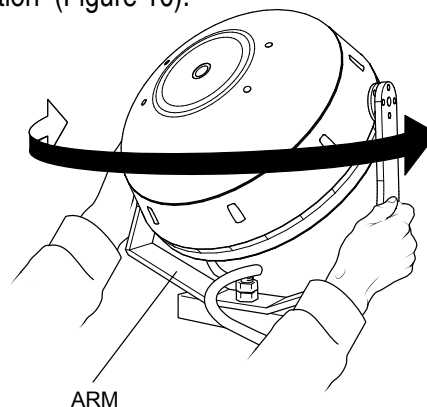

Figure 10. Adjusting Direction of Individual Lamp
1. Hold the arm of the lamp and turn it to the desired direction (Figure 10).